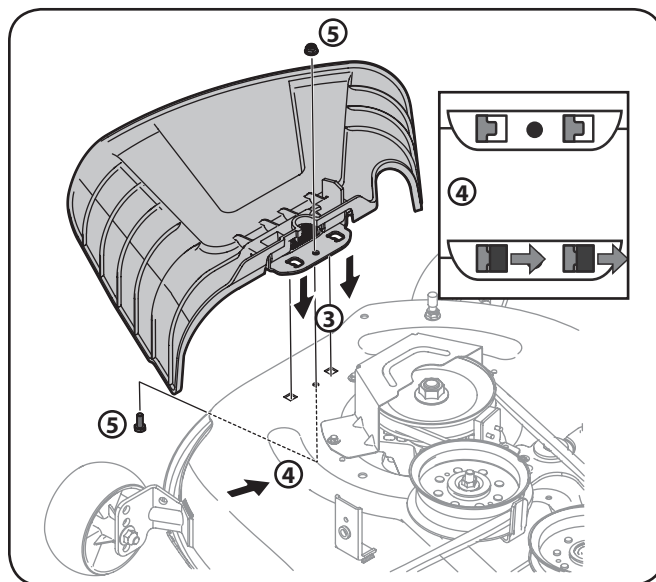

Figure 3-6
- Place the chute deflector on the deck, be sure to insert the tabs on the chute deflector into the holes on the deck. See Figure 3-6.
4. When the tabs are installed in the deck, slide the chute deflector toward the rear of the tractor until the bolt hole in the chute deflector aligns with the hole in the deck. See Figure 3-6.
5. Secure the chute deflector in place with the flange lock nut and hex screw removed in step 2. Tighten to 102-124 in-lbs. See Figure 3-6.